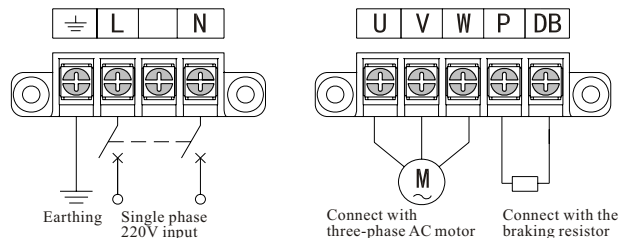

Fig.3-9 Diagram 1 for Main Circuit Terminals
1. The main circuit terminals are shown as in the figure 3-9~3-10.